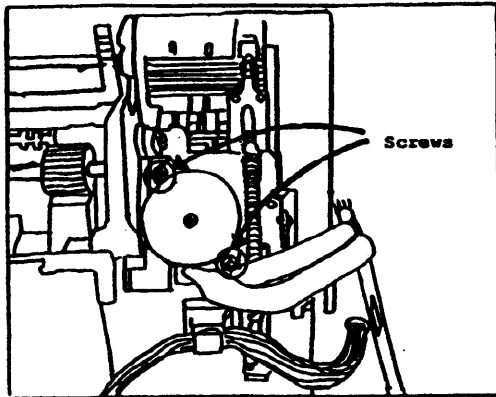
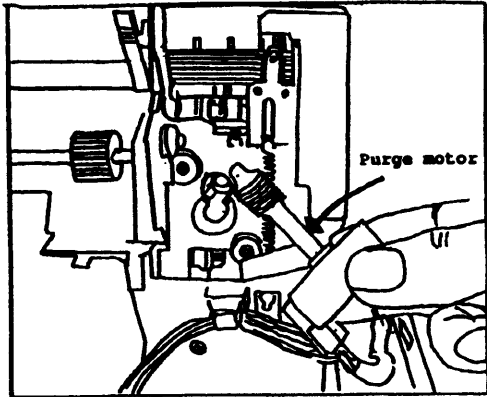

Figure 2
Figure 3
1. Remove the two screws fixing the purge motor (see Figure 2), then remove it from the purge unit (see Figure 3).